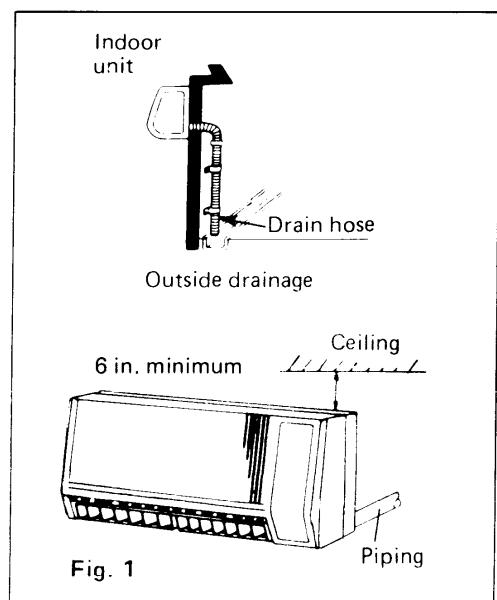

Fig. 1
- select a location where piping and drain tube have shortest run to the outside. Fig. 1